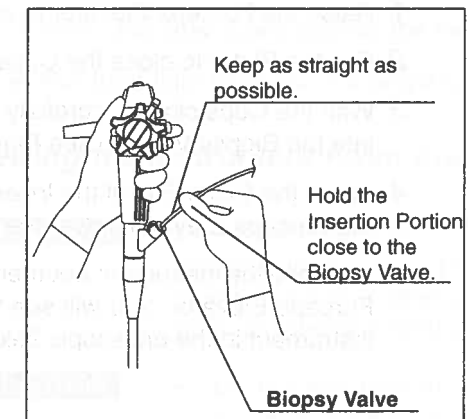

Figure 3.2
2. With the Cups closed, carefully insert the instrument into the Biopsy Valve or T-plug. (See Figure 3.2)
3. With the Cups closed, carefully insert the instrument into the Biopsy Valve. (See Figure 3.2)